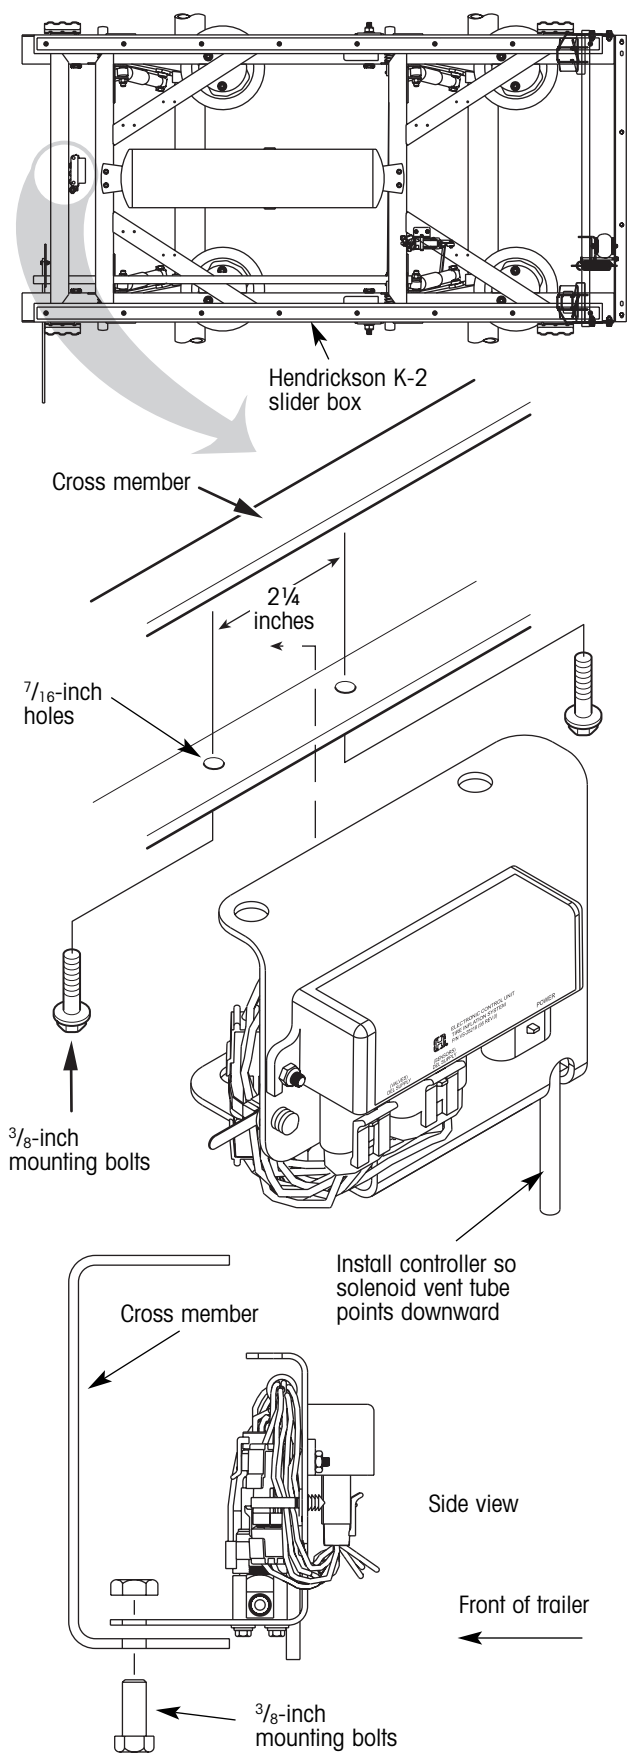

Figure 16. Controller assembly installation
On Hendrickson K-2® slider box suspensions, mounting holes for the controller assembly are provided on the forward cross member (figure 16). On other suspensions without mounting holes, a location must be selected and holes drilled to mount the controller assembly.
2. Drill two holes on 2¼-inch centers to accommodate the mounting bracket. Attach the controller assembly with two ¾-inch fasteners (figure 16). Orient the controller so that it is protected within the cross member and the ECU points rearward (figure 16).
⚠ CAUTION: The controller assembly must be mounted vertically with the solenoid vent tube pointing down (figure 16). This properly orients the exhaust port to prevent damage.